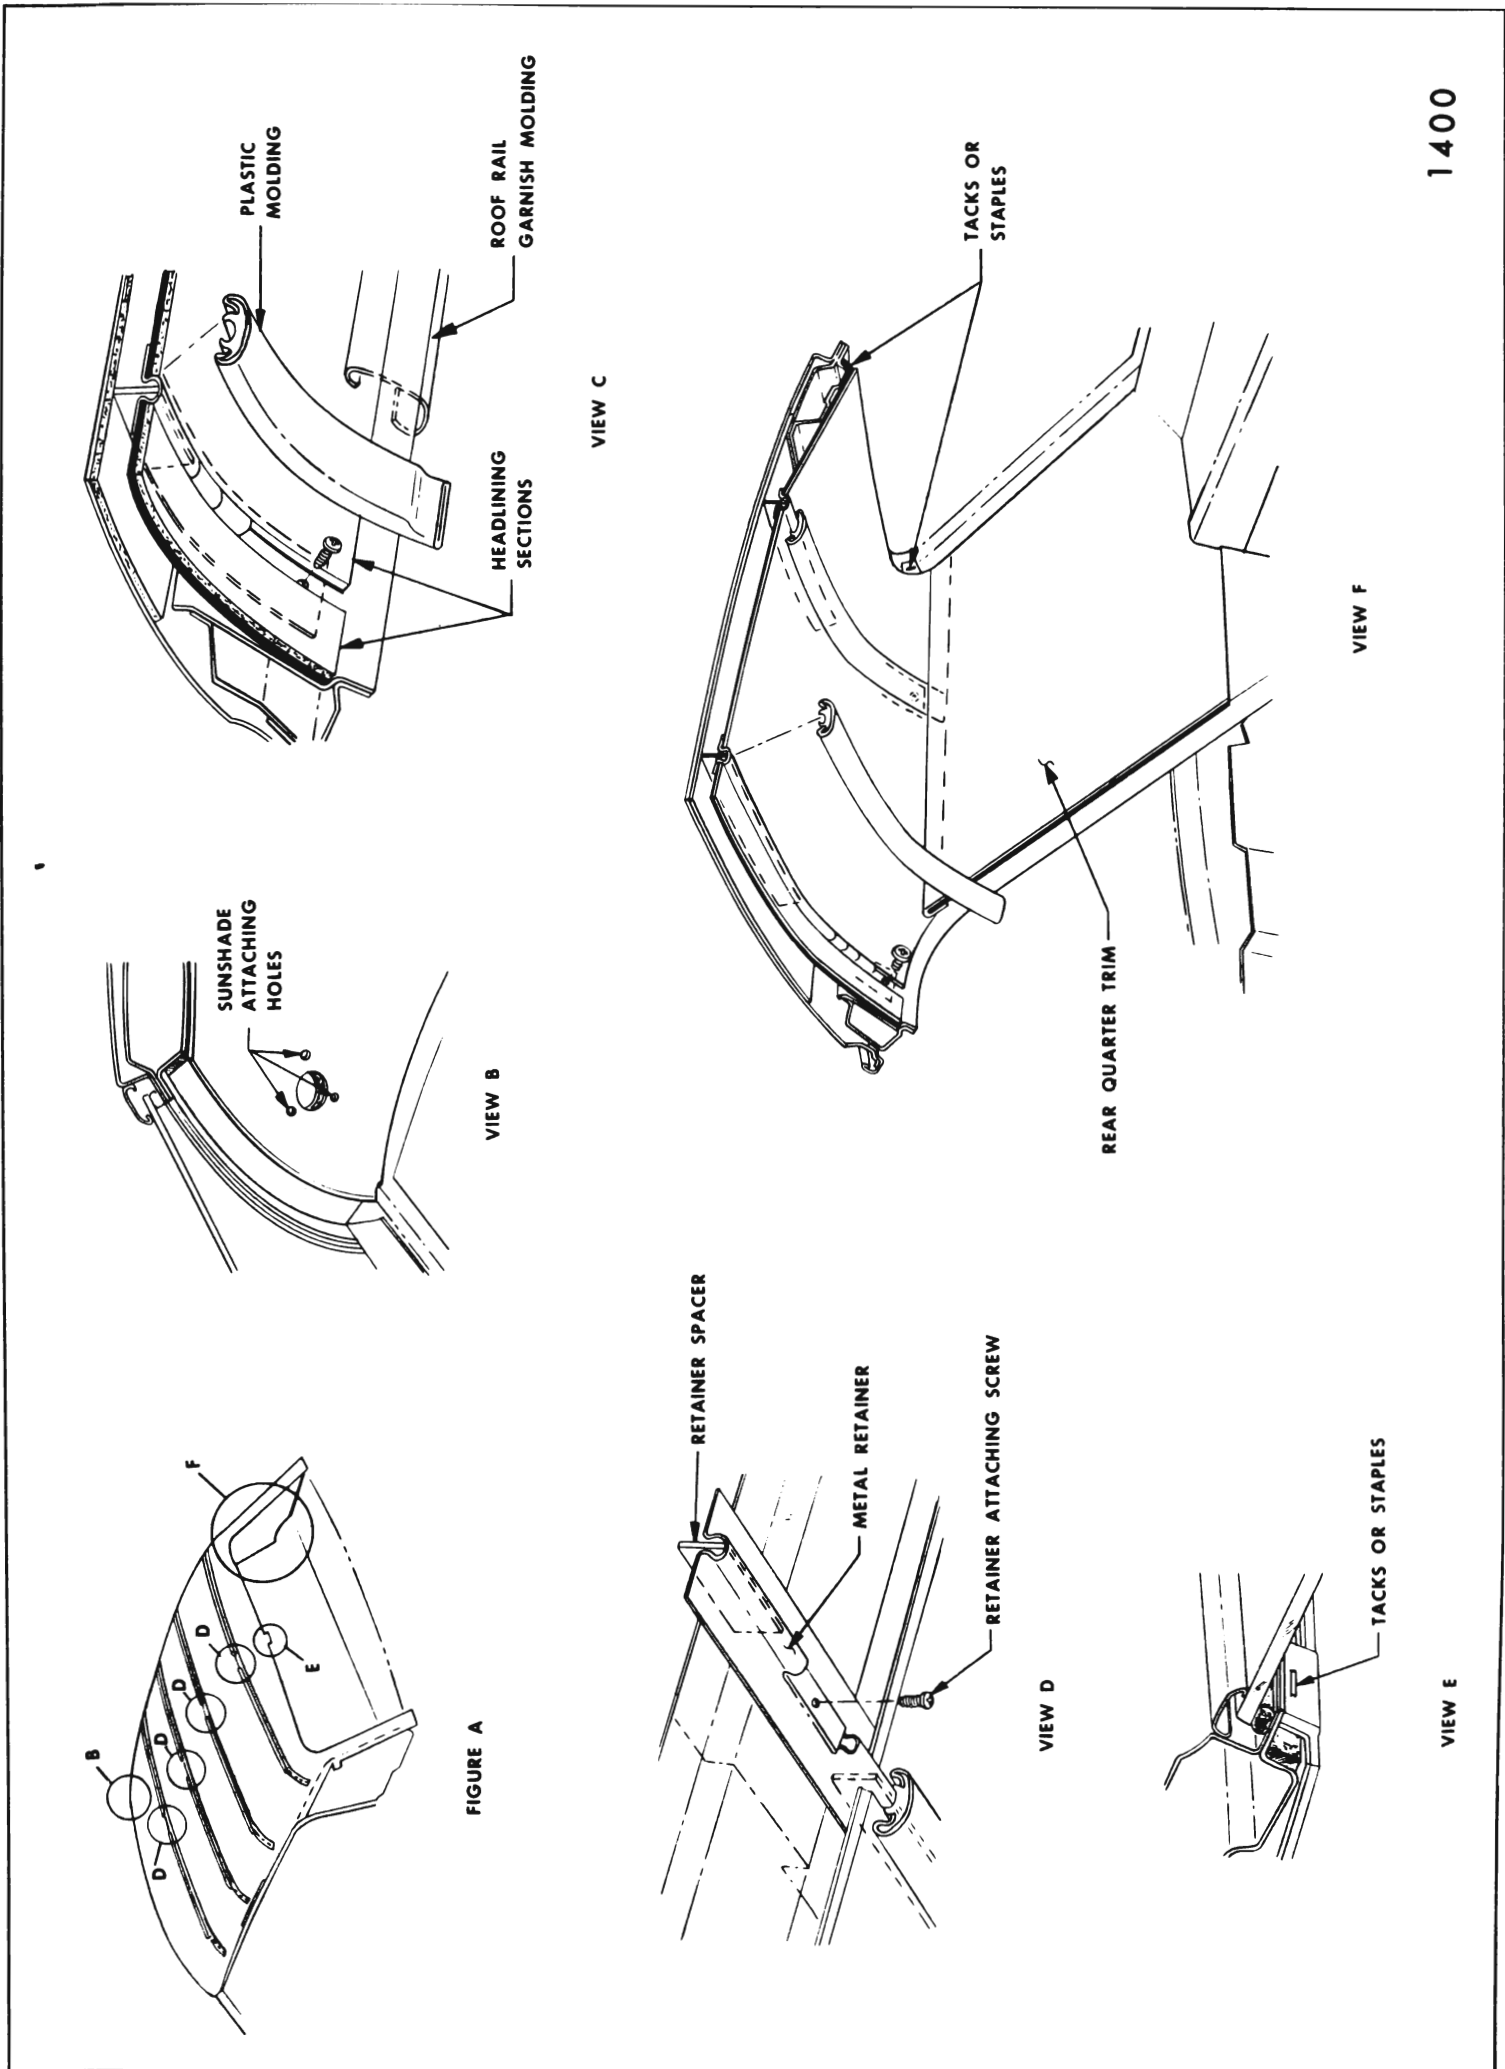

Fig. 4-6—Polyurethane Foam Headlining and Flocked Headlining Installation
3. With flat-bladed tool, carefully pry one end of plastic molding from retainer and remove (View "C", Fig. 4-6). Remove plastic moldings from both retainers securing section of headlining being removed.
6. When retainers are required to be removed, remove screws securing retainer to roof (View "D", Fig. 4-6). Retainer spacers are installed between the metal retainers and roof (View "D", Fig. 4-6).
1. If retainers were removed, make certain that retainer spacer shown in View "D", of Figure 4-6 is installed prior to installing retainers.
then carefully snap remaining edge in other retainer. Snap plastic molding over retainers (View "C", Fig. 4-6).
3. If installing rear section of headlining assembly, position forward edge of section in retainer. Center and align section in relation to side roof rails and back window opening and stay tack section in place. Recheck alignment; then starting at center of back window area, permanently tack section to tacking strips at back window opening (View "F", Fig. 4-6).
sections, side roof rails, and sunshade support attaching holes (View "B", Fig. 4-6). Install sunshade supports.